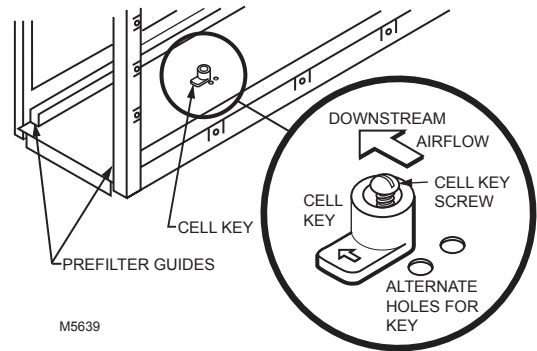

Fig. 8. Position of cell key determines orientation of cell (arrow on key must point downstream).
2. Remove the screw holding the cell key in place. See Fig. 8.